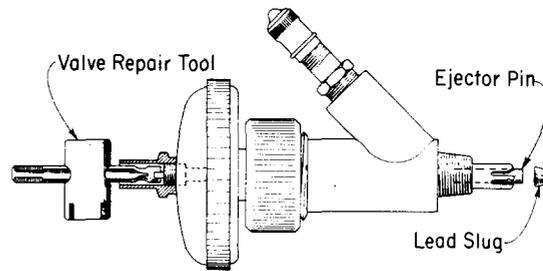

Fig. 3 — Removing Lead Slug from B and C Cable Drills
3.03 To remove lead slug from the drill, remove the cap and turn the internal screw clockwise with the Valve Repair Tool. (See Fig. 3.)